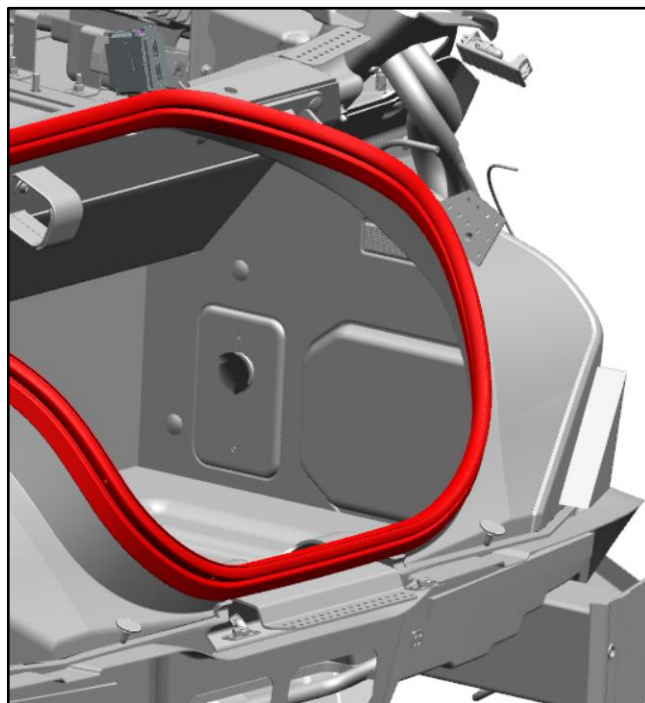

Figure 1
3. Release the weather strip on the right side of the luggage compartment opening. (Refer to Figure 1.)